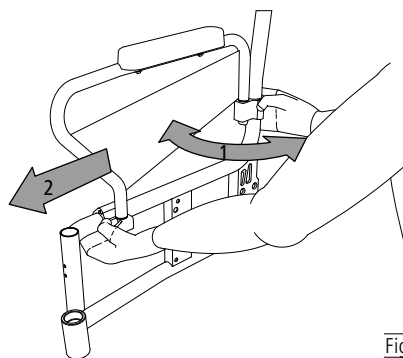

Fig. 12
3. Now turn the rear clamp to the desired position. (1, Fig. 12). Support and guide the front clamp when sliding (2, Fig. 12) on the side frame and press it slightly upwards.